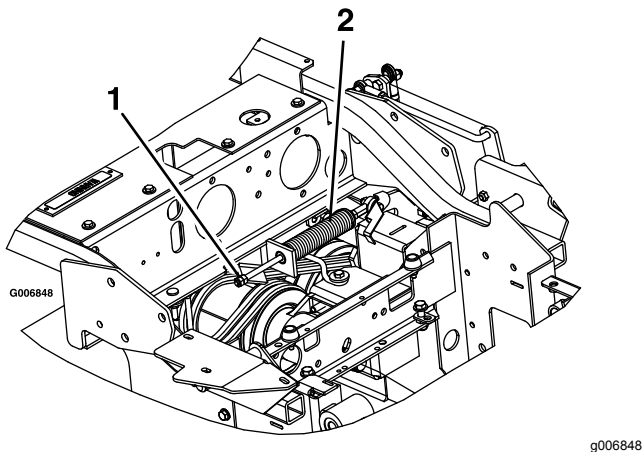

Figure 61
3. Locate the brake spring and thread the 2 jam nuts out to the end of the brake-spring rod (Figure 61).